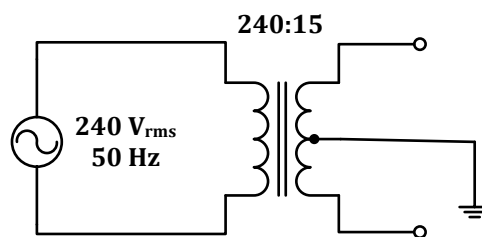
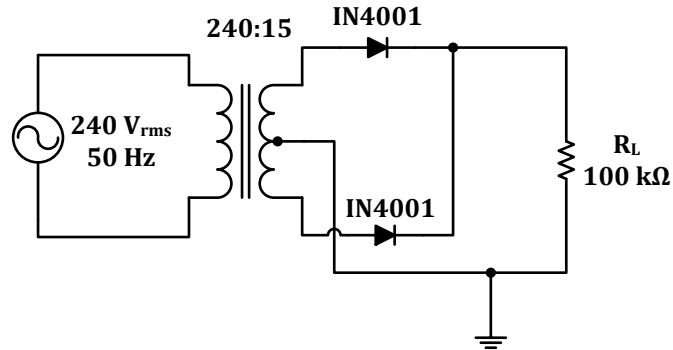

Figure 1.1
Figure 1.2
- a) Construct the circuit shown in Figure 1.1.
- a) Connect two diodes to the circuit in Figure 1.1 as shown in Figure 1.2.